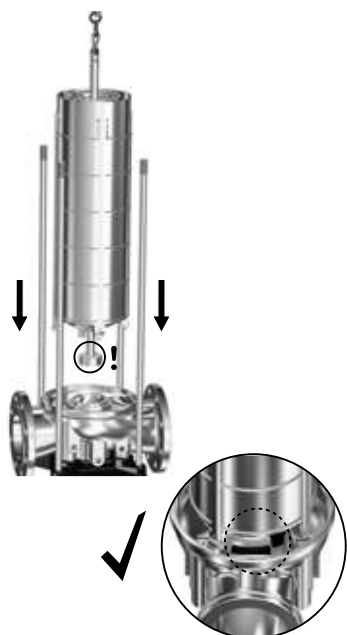

Fig. 3 Aligning inlet part (44) in pump base (6)
1. Lubricate and install a new o-ring (37) in the pump base (6). See section 7.2 *Lubricants*.
2. Carefully lift the chamber stack with approved lifting equipment and lower it into the pump base. Note: Make sure to align the pump inlet part (44) with the tap in the pump base (6). See fig. 3.